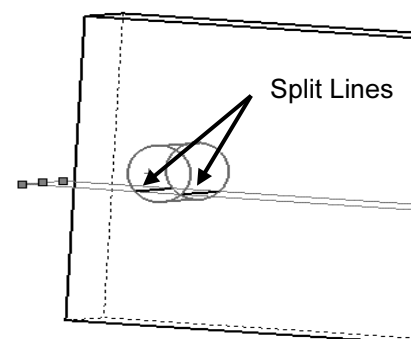

Figure 10 – Close-up view of hole showing *Split Lines* near bottom of hole.
10. Next, click inside the **Faces/Bodies to Split** field. This field may already be active (salmon color). Then move the cursor over the model and select the *inside surface* of the hole. It may be necessary to zoom-in on the model to select this surface. Once selected, **Face<1>** appears in the active field. Figure 10 shows a partial image of the model with *Split Lines* appearing where **Plane1** intersects the bottom of the hole.